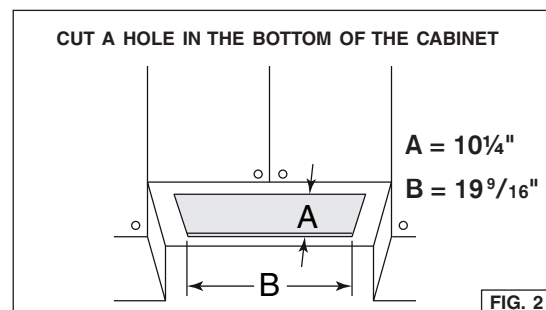

FIG. 2
1. Cut a hole in the bottom of the cabinet, using the dimensions shown (Fig. 2), or use the optional liner as a template.